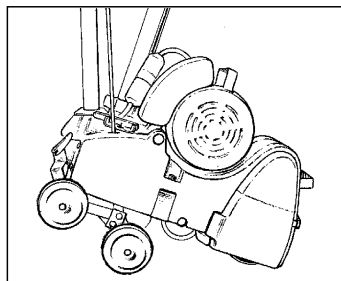

Figure 3
1. With the dolly mechanism in place as described above, tip the machine by lifting up on the operator's handle to raise the rear of the machine off the floor/ground until the dolly swings under the machine. (See Figure 3)